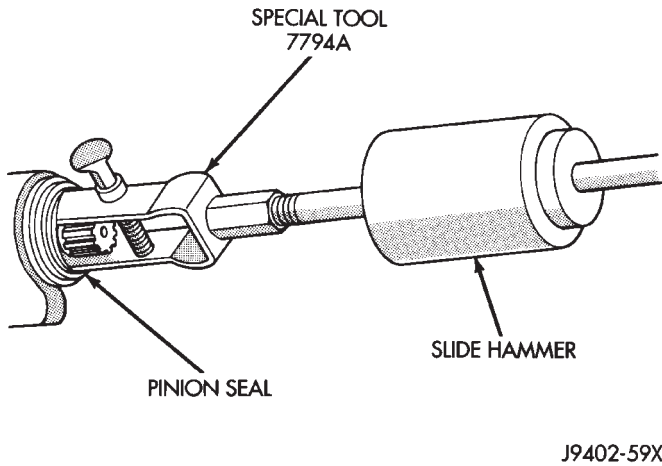

Fig. 7 Seal Removal
(9) Use Remover 7794A and slide hammer to remove the pinion gear seal (Fig. 7).